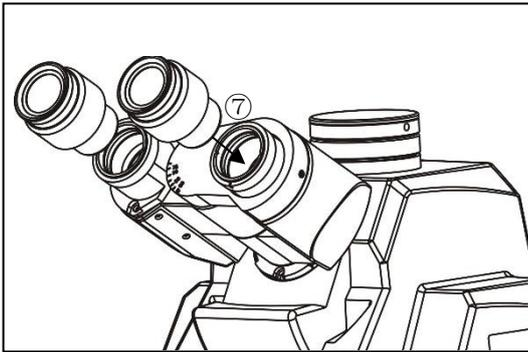

Fig.7
#### 4-2-6 Eyepiece installation (Fig.7)
Insert the eyepiece into the viewing eyepiece tube to the side according to the path of Num ⑦ as shown by Fig.7.